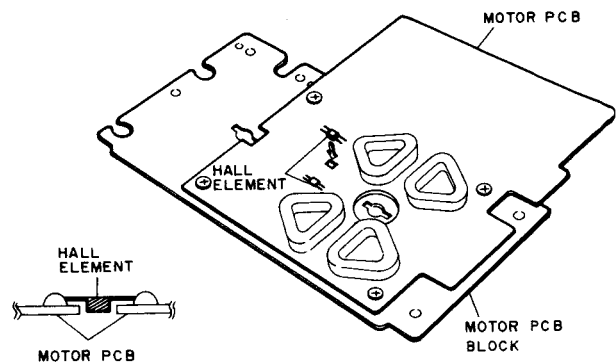

Fig. 4-10
- 4) When attaching a replacement, connect the protruding portion of the Hall element to the circuit board. (See Fig. 4-10.)